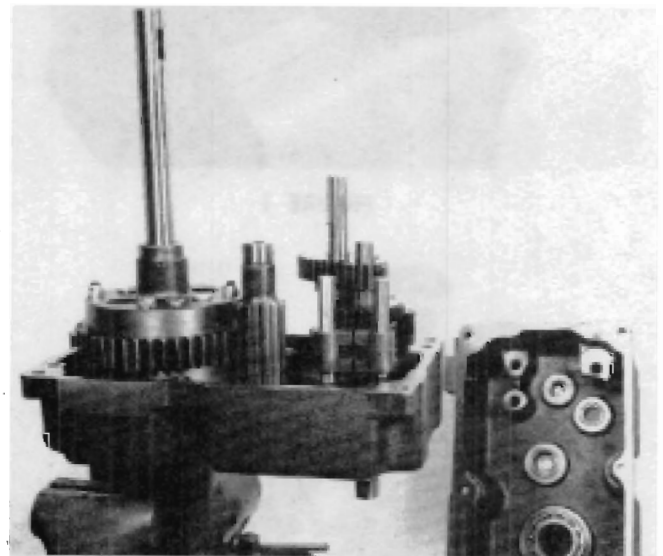

FIGURE 19
8. Install the differential and axle assembly, as shown in Figure 19, making sure that four (4) nuts are up toward the L.H. case.